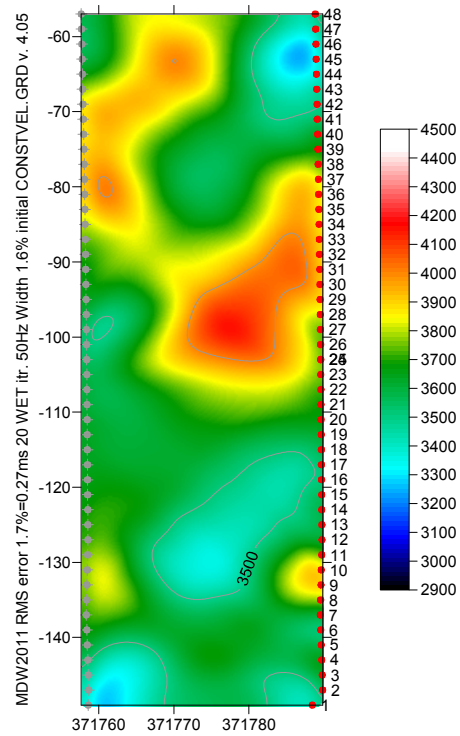
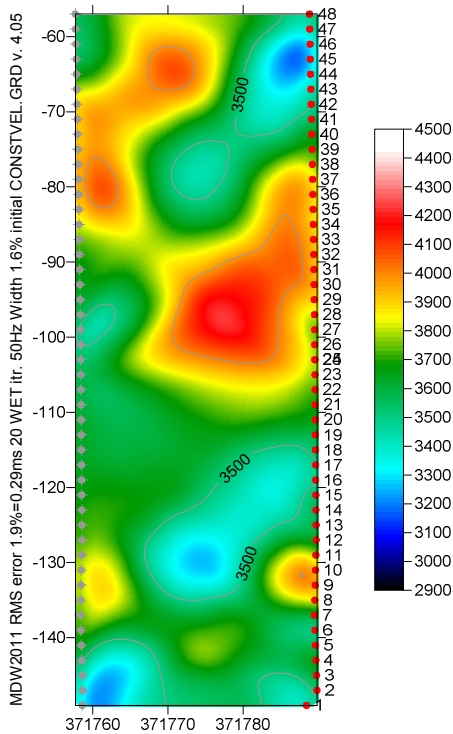

Fig. 6 : Smooth invert|WET with constant-velocity initial model. 20 Steepest-Descent WET iterations. Full WET smoothing. WDVS disabled.
Fig. 11 : WET Tomo|Automatic WET with WDVS enabled @200Hz (Fig. 9). Starting model is Fig. 5.
- confirm prompt to continue with WET inversion to obtain WET output shown in Fig. 6 & 7
- click *Open* to rerun the Smooth inversion using your selected starting model grid to obtain Fig. 11&12
Here is the link to the .RAR archive with the MDW2011 profile folder for above Fig. 11 :
Note how enabling WDVS (Wavelength-Dependent Velocity Smoothing; Zelt and Chen 2016) increases the contrast between low-velocity and high-velocity anomalies in the WET tomogram. Compare Fig. 11 with Fig. 6. The RMS error increases slightly (0.29ms vs. 0.27ms) when enabling WDVS at 200Hz.